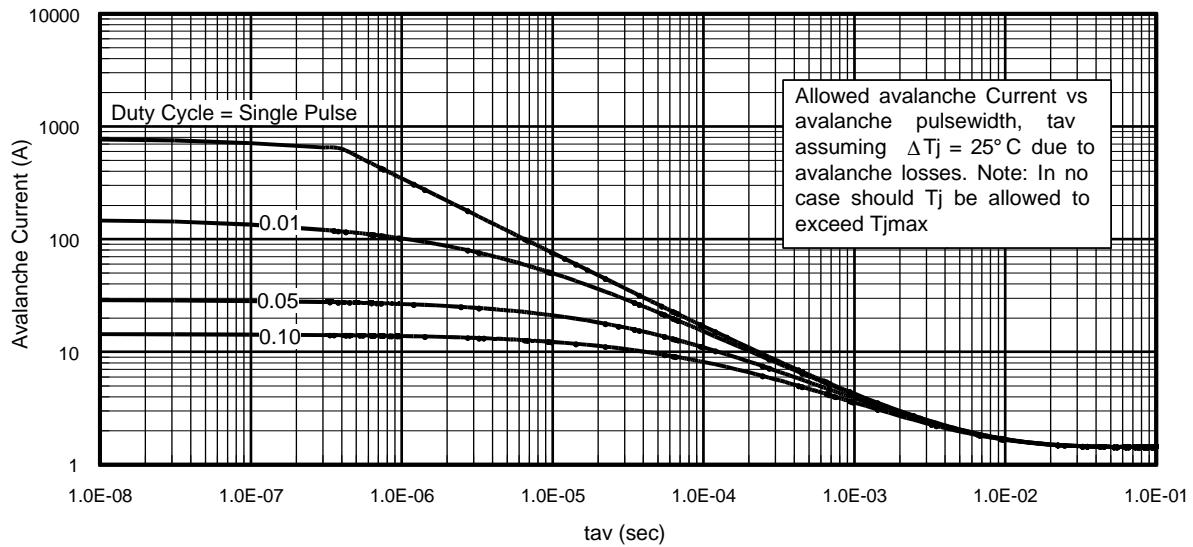

Fig 15. Typical Avalanche Current Vs.Pulsewidth
**Notes on Repetitive Avalanche Curves , Figures 15, 16:
7. ΔT = Allowable rise in junction temperature, not to exceed T_{jmax} (assumed as $25^\circ C$ in Figure 15, 16).